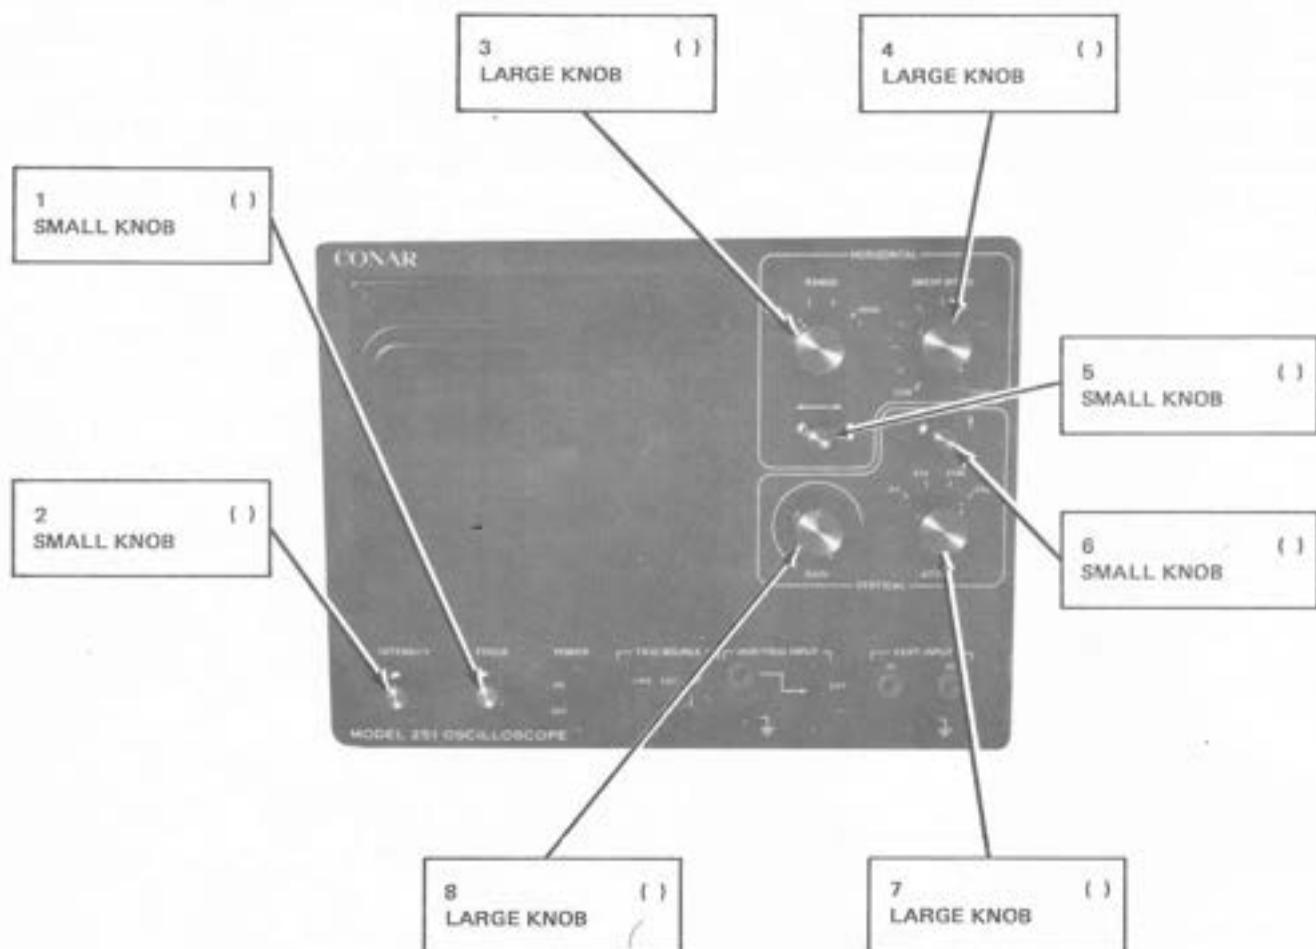

Figure 38. Installing the knobs.
- (1) Install the front panel knobs as shown in Fig.38. Position the knob marks as shown. Secure the knobs on the shafts by tightening the set screw with a small-bladed screwdriver ()